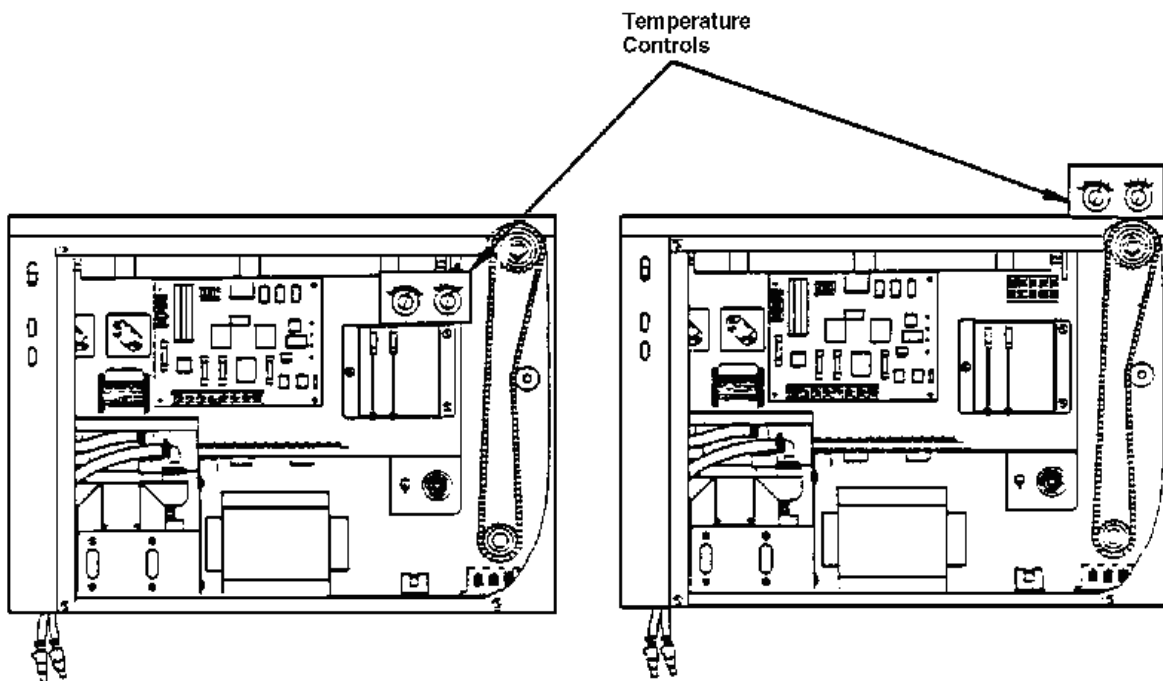

Figure 3-1. AFP 14-X3 temperature controls.
- (f) Set the actual dryer air temperature on the temperature dial (see figure 3-1) and adjust R3 to return the voltage at TP5 back to the previously noted voltage.